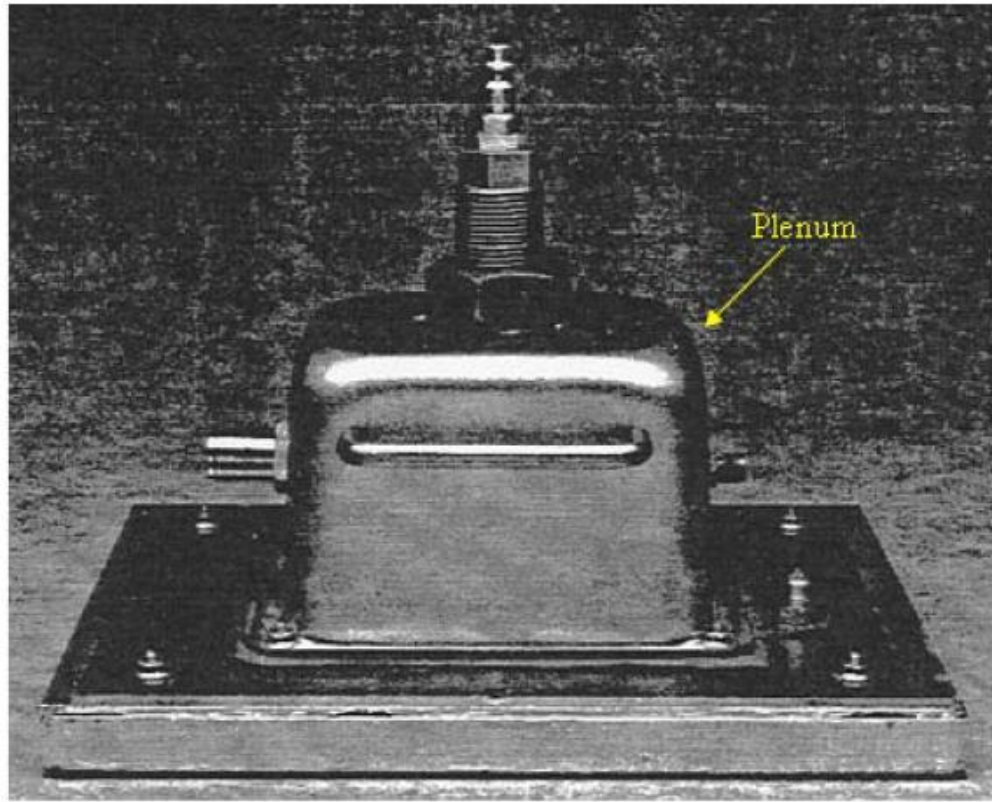

Figure 3.2: Special mounting plate
- Special plate was fabricated to mount the concealed sprinklers in the plunge test wind tunnel as indicated in Figure 3.2. This is typically mounted above the ceiling in a normal installation.